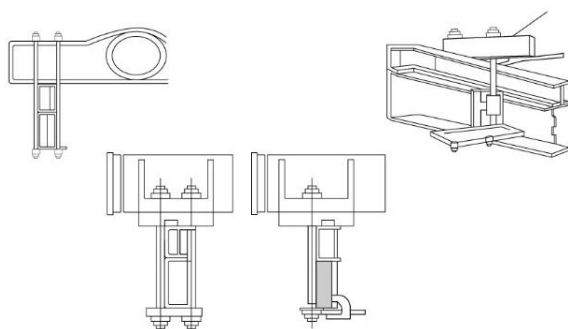
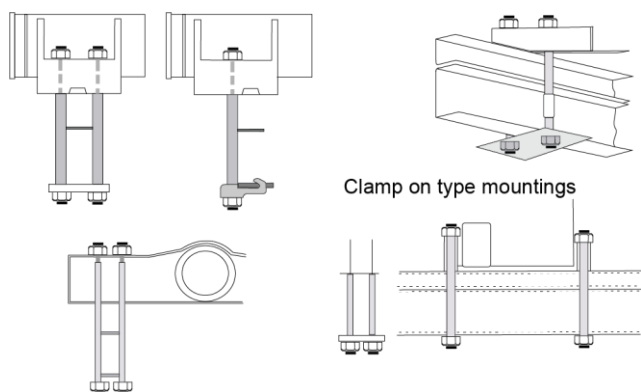

Figure 8: Discouraged lifting system mounting attachment to chassis
Figure 9: Prohibited lifting system mounting attachment to chassis
- Avoid utilising an attachment method that imparts forces onto the chassis flange (see Figure 8).
- Avoid utilising an attachment method that imparts a loading similar to U-bolt attachment. Figure 9 utilises the same attachment method as that in Figure 8 but lacks metal spacers between the top and bottom flanges of the chassis. Avoid using this method as it is likely to damage the chassis rail.